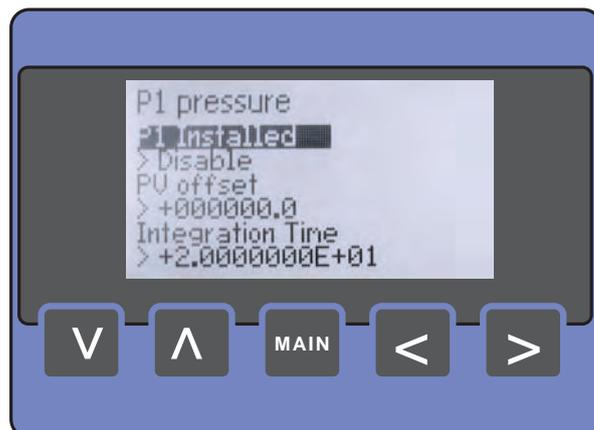

FIGURE 4-15
- On selection of an available function, the [\[entity list\]](#) screen is presented (see FIGURE 4-15). You can *navigate through the entity list* by using the up or down button. An entity can be selected by simultaneously pressing the left + right button. You can return to the [\[function list\]](#) screen by pressing the left button.